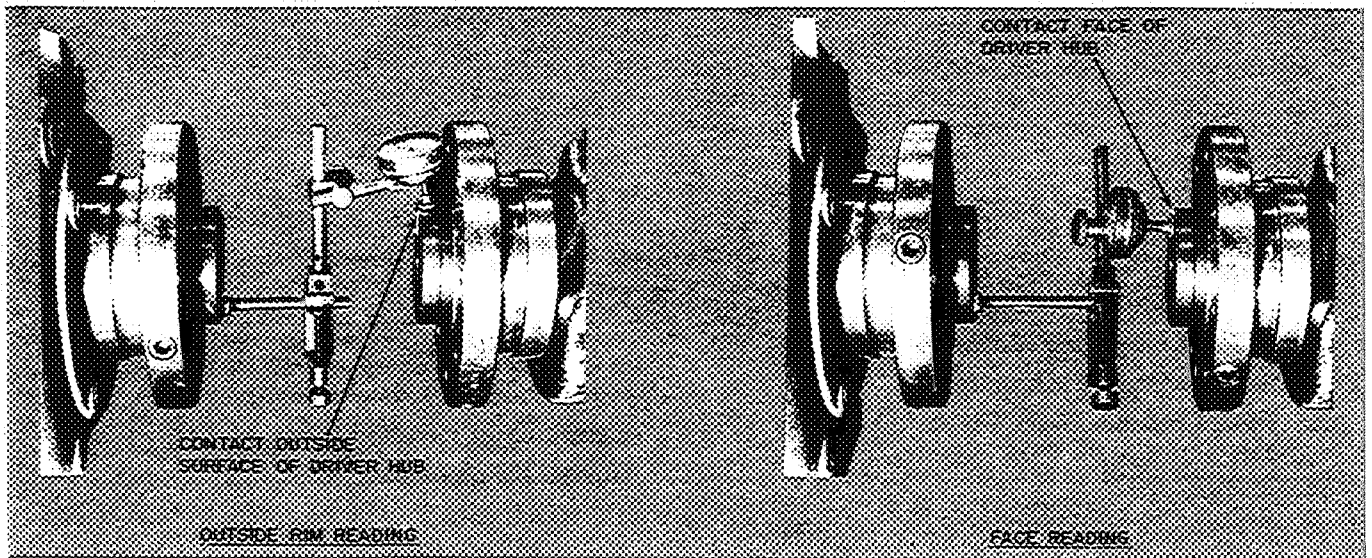

Fig. 10 – Checking Alignment with Dial Indicator
3. Check angular and parallel alignment in plan and elevation. Indicators may be mounted as in Fig. 10. Refer to coupling manufacturer's instructions and to Carrier Standard Service Techniques, Chapter 15, for applicable procedures.